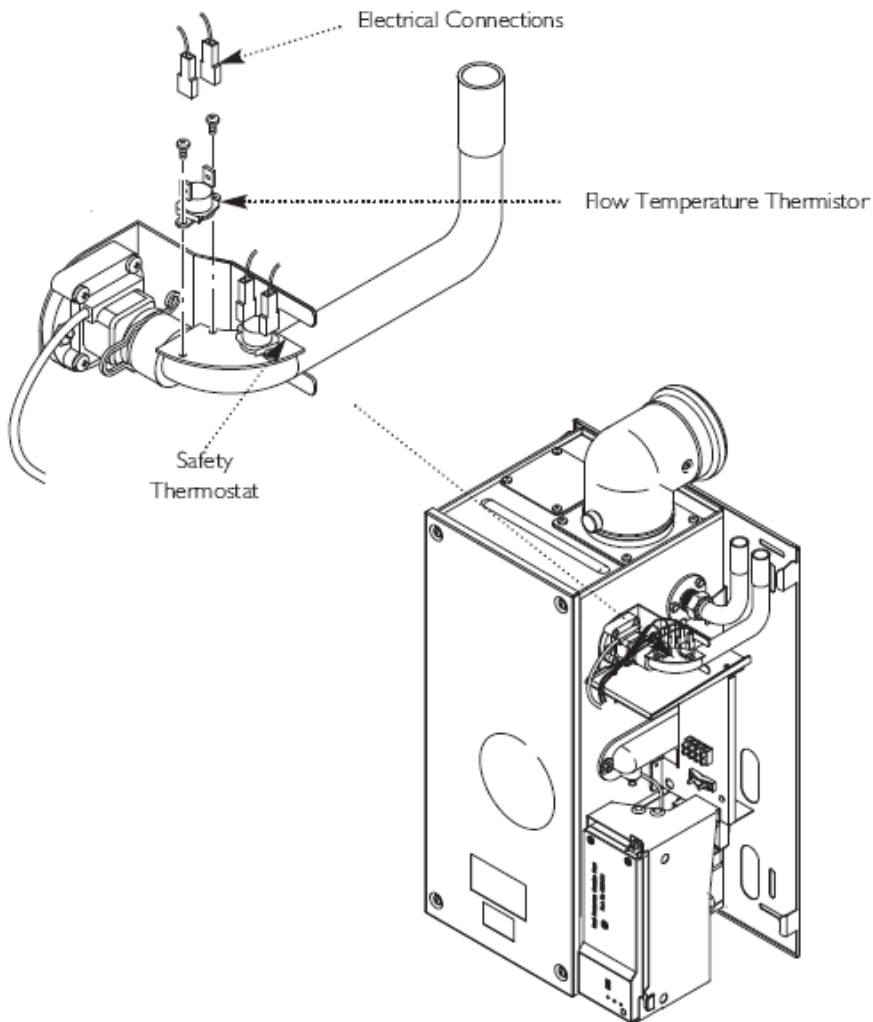

Fig. 46
15.2 Flow Temperature Thermistor and Safety Thermostat (Fig. 46)